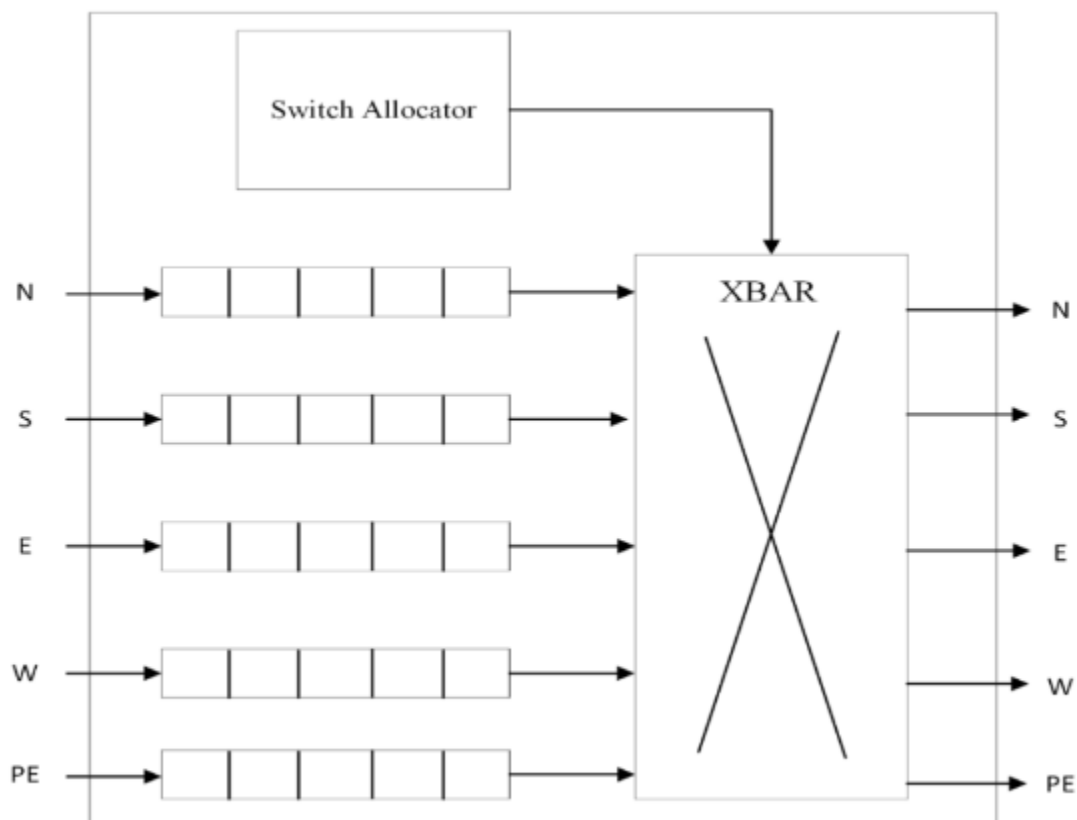

Fig. 2. Router Microarchitecture
The following Fig. 2 shows a simple NoC router microarchitecture. The router has one input and one output port in each direction (North, South, East, and West). The “crossbar (XBAR)” connects every input to every output of a NoC (except in the same directions). The “switch allocator (SA)” configures the crossbar according to the header flit and routing algorithm.